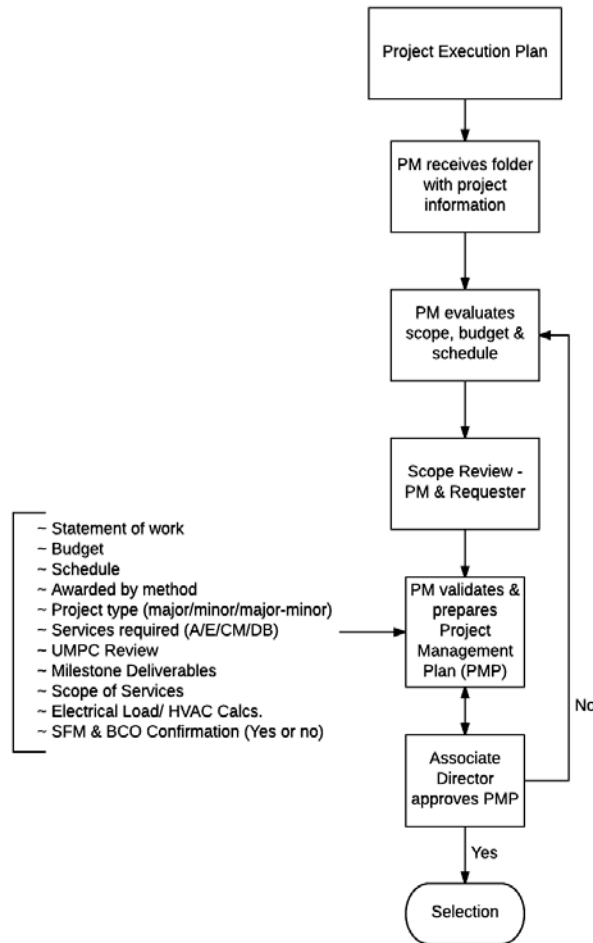

Figure 3 - Project Execution Planning phase
- The Project Manager meets with the project requester to evaluate project scope and assess budget and schedule. The PM meets with the project stakeholders to define the project scope and project components. Components and decisions are listed in the workflow. See Figure 3 bracket.
- Once the contract service type is chosen as per workflow above, the Project Manager validates the selection and completes the PMP per Figure 3, prior to moving to Selection Phase.